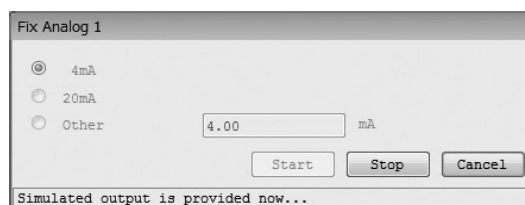

Fig.129
- ④ Click the "OK" button to cause the set analog value to be outputted. While the simulated output value is being outputted, a message at the bottom of the window will indicate that the system is "creating simulated output", as shown in Fig. 129.